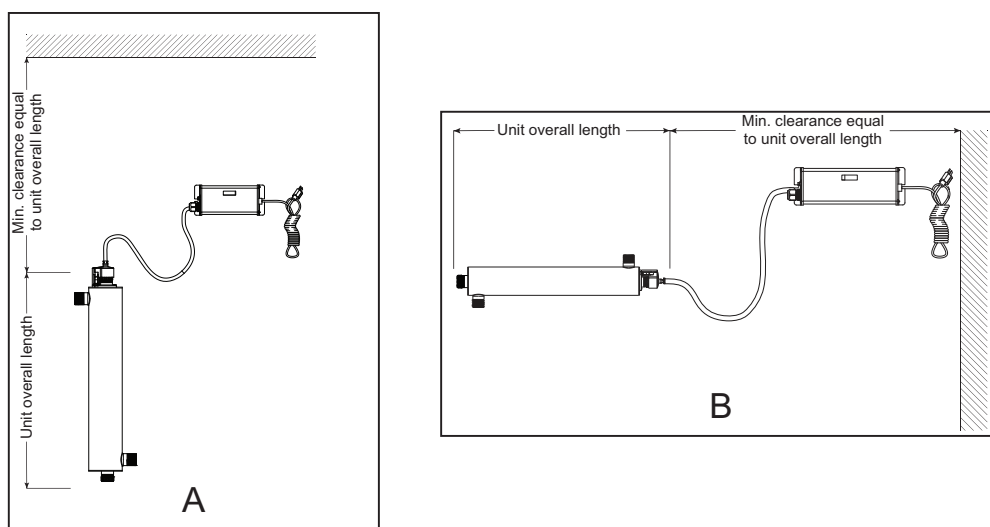

Figure 3 Disinfection Installation - Vertical and Horizontal
2. Select a suitable location for the disinfection system and its related components. As it is recommended to install a GFCI, make sure that this is taken into consideration prior to any installation. The system can either be installed vertically (inlet port at the bottom) as shown in Figure 3 A, or horizontally as shown in Figure 3 B. However, the vertical installation is the most preferred method. When selecting a mounting location, leave enough space to allow the removal of the UV lamp and/or quartz sleeve (typically leave a space equal to the size of the chamber itself).